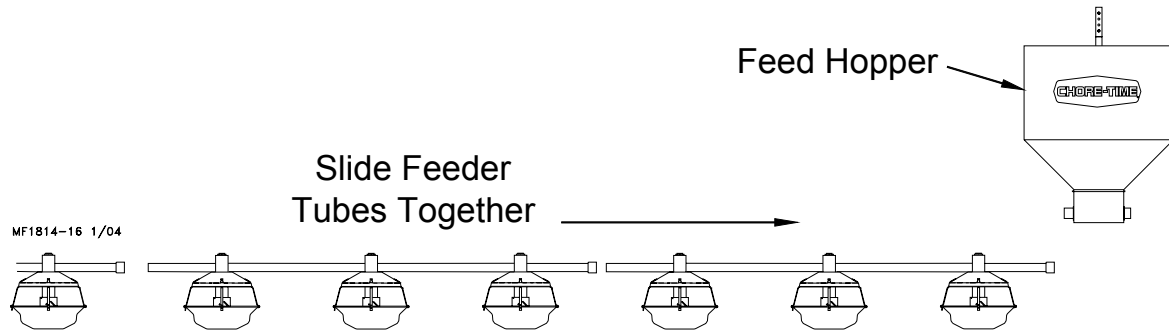

Figure 23. Feeder Line Assembly Procedure
1. The tubes should be laying end to end in approximately the final location of the line. The expanded end of each tube should be toward the hopper end of the line, see **figure 23**.